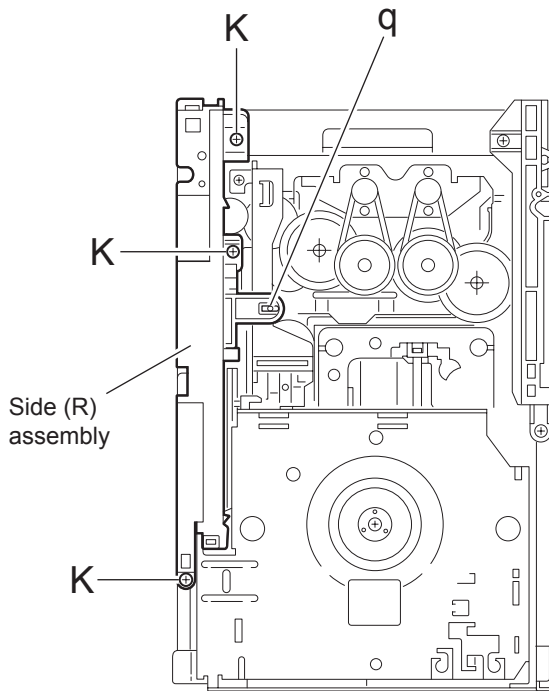

Fig.18
3.2.8 Removing the side (R) assembly (See Fig.18 ~ 22)